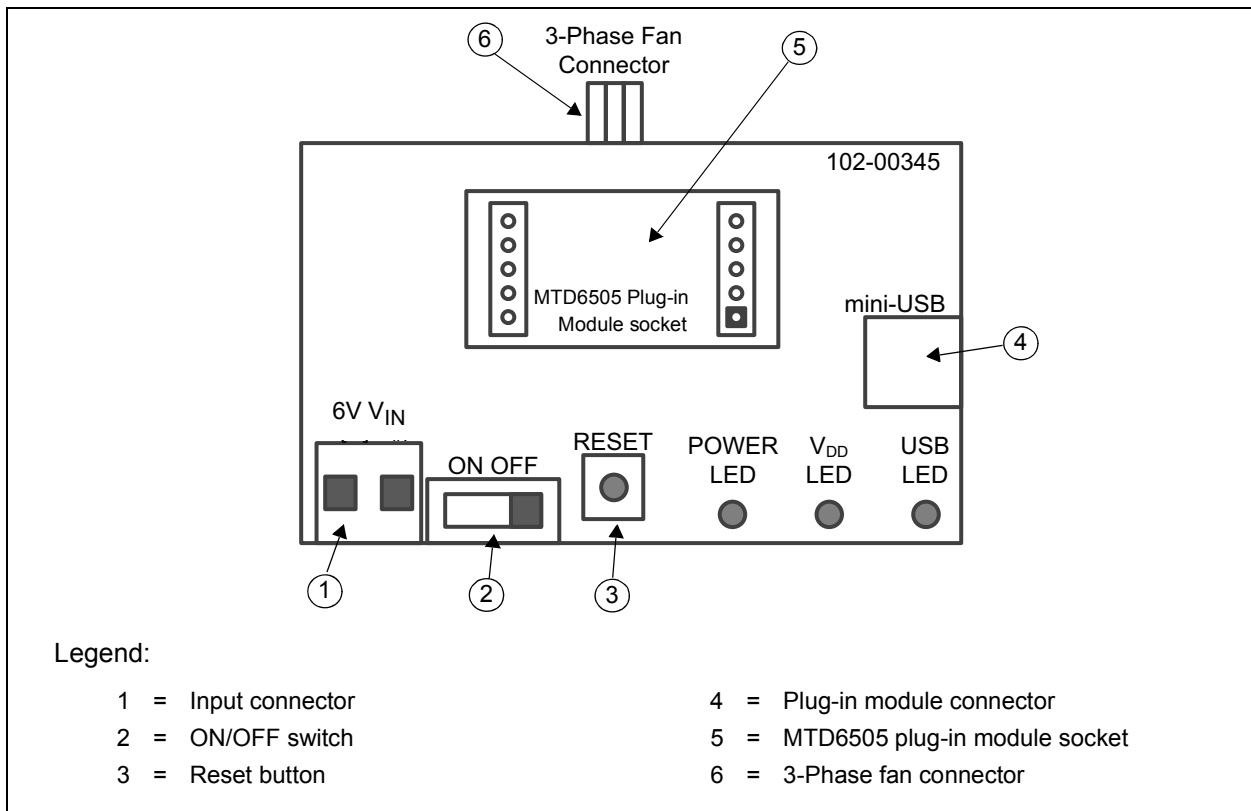

FIGURE 2-1: Top View - Hardware Components.
Figure 2-1 identifies the required points for using the MTD6505 3-Phase BLDC Sensorless Fan Controller Demonstration Board.
1. Plug in the MTD6505 plug-in module (with an MTD6505 soldered on it) on its socket (see Figure 2-1).